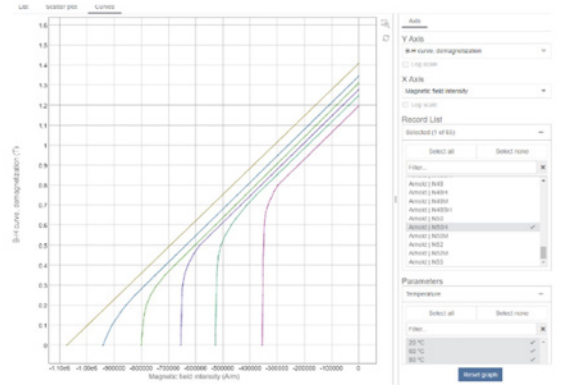

Figure 6 B-H curve data in Granta MI
A challenge many engineers are faced with when designing motors is heat. Specifically, higher temperatures can reduce the “knee point” in the demagnetization curves (or hysteresis curve) of permanent magnets. Going beyond this point causes irreversible damage to the magnet, leading to a reduction in motor performance. Data on these curves at different temperatures is available in **Ansys Granta Advanced Materials — Electromagnetic** (Figure 6), which you can use with electronics simulation solvers like **Ansys Maxwell**.
- Magnetic — coercivity, remanence, B-H curve (Figure 6) and core loss